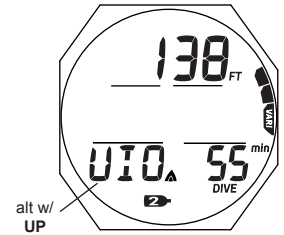

Fig. 84 - VGM MAIN (after Audible)
**VGM Dive Main**, information includes (Fig. 84) -